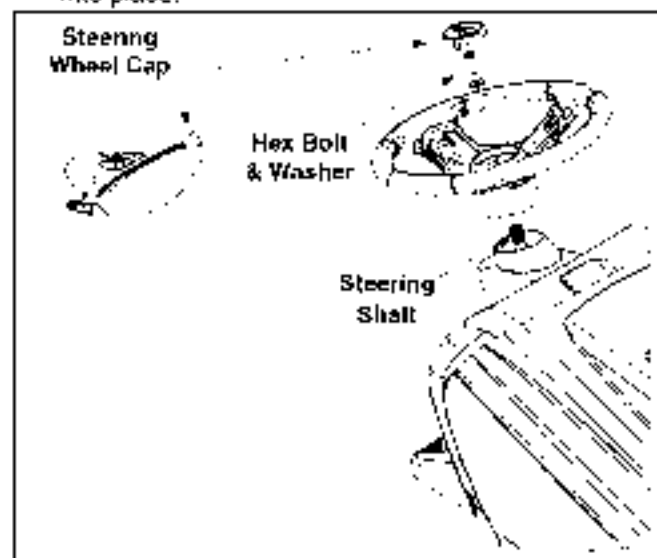

Figure 6
- Place the washer (with the cupped side down) over the steering shaft and secure with the hex bolt. See Figure 6.